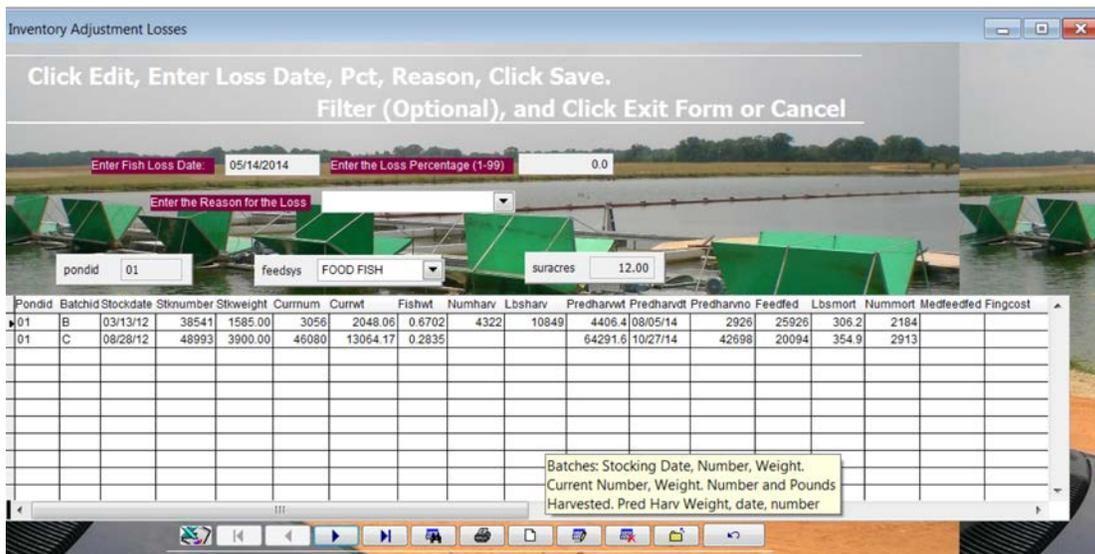

Figure 32. Example inventory adjustment losses screen.
The sixth **pond management** menu item, **enter inventory adjustment losses**, has a similar effect as the death losses menu item above. However, the *reason* for recording inventory adjustment losses is different. In death losses above, you have observed the loss (dead fish came up, for example). In this case, experience has shown you that you are going to lose a certain percentage of your fish each month and not observe the loss. So, periodically (perhaps monthly) you adjust the inventory by losing some of your fish. When you choose enter inventory adjustment losses, a screen similar to Figure 32 appears.
The first line of instructions (**click edit...**) have been done, except for clicking save. Notice that loss date, percent loss, and loss reason have all been defined. If you click the save (7) icon, the 7 and 8 (cancel) icons will be replaced by the add icon and the edit icon, and you may then optionally use binoculars (5) to filter a subset of all your ponds, which will incur the 1 percent loss defined. Notice that inventory adjustment losses apply to a *range* of ponds. Click the continue (10) icon to apply all losses (Figure 32), or click the rightmost back arrow to cancel inventory adjustments. Inventory adjustment records are stored in a file (death), and are used in FISHY reports. When inventory adjustment losses are done, a prompt screen will appear, listing all ponds incurring losses. You may then apply the losses or cancel them.